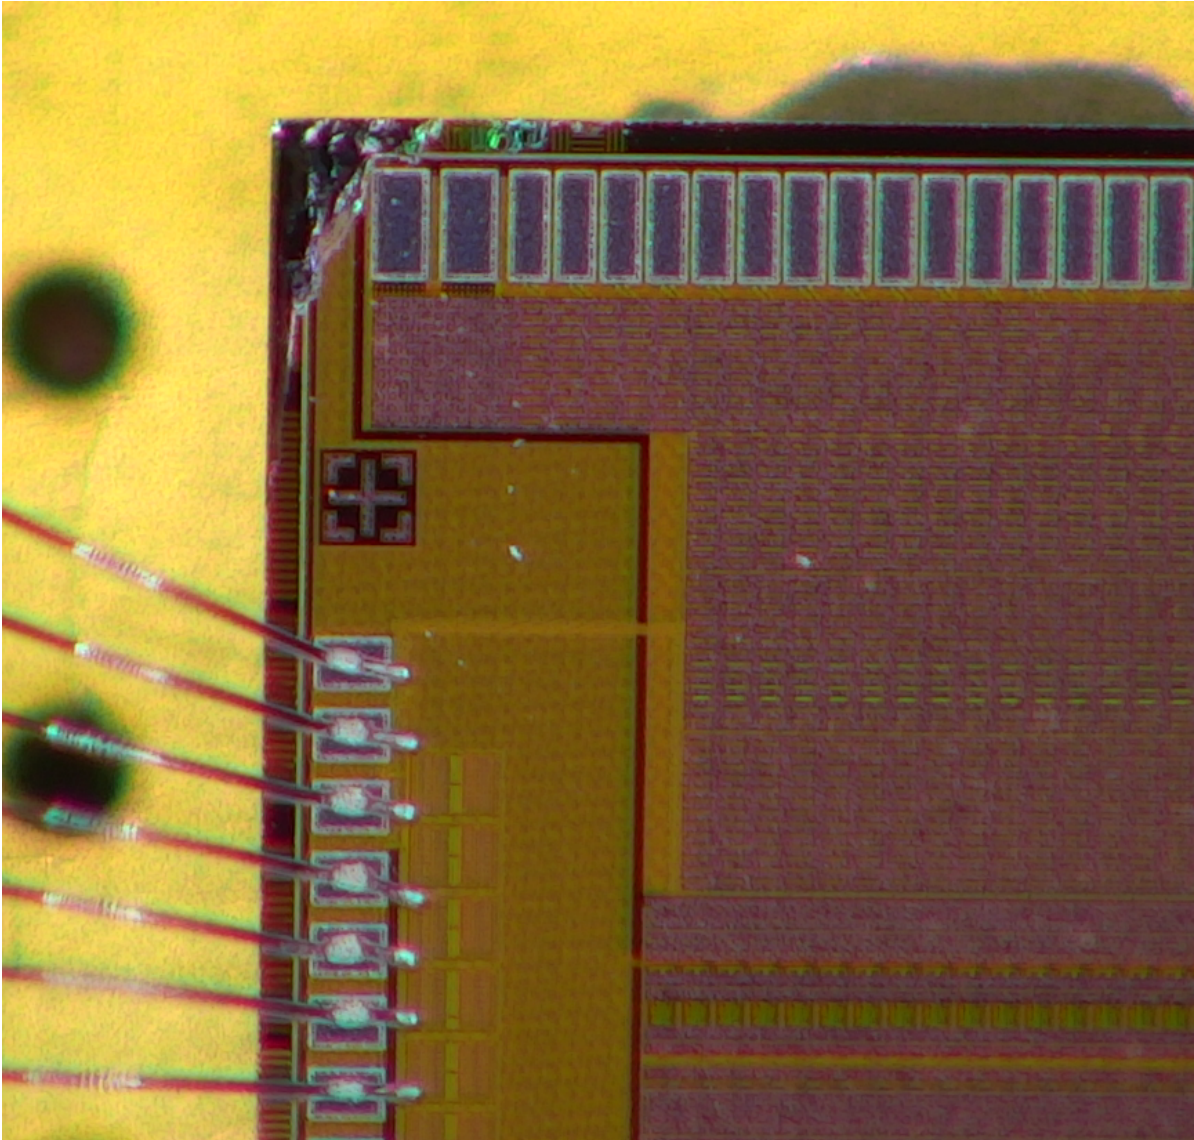

Figure 545: Damaged corner of ASIC 4
- ASIC fully functional without cap-PCB; ASIC corner damaged (see fig. 545);